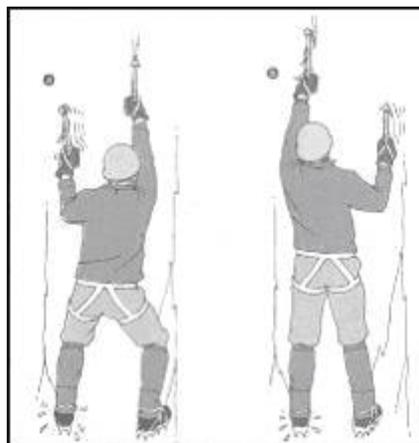

Figure 21-26
(2) Tool Placement. (Fig 21-26)